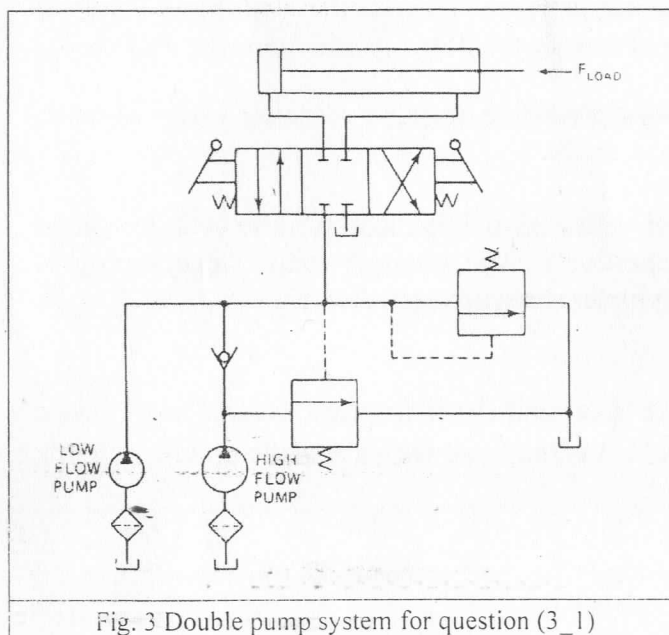

Fig. 3 Double pump system for question (3\_1)
1. For the double pump system shown in Fig. 3 for the application of a sheet metal punch press, what should be the pressure settings of the unloading valve and pressure relief valve under the following conditions: